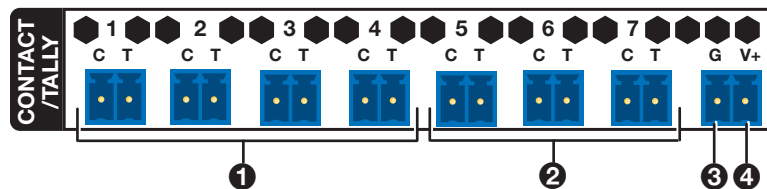

Figure 14. Contact/Tally Panel
- **Contact/Tally ports 1 through 4** — (See figure 14, ❶) Each **CONTACT/TALLY** connector is labeled with the number of the video input associated with it. Wire a push button or other contact closure switch to pin C (Contact) and to the shared pin G (ground, ❸).
- If using a tally indicator, connect the indicator device to the shared +V pin (5 VDC, required for tally devices without a power supply, ❹) and the T (Tally) pin.